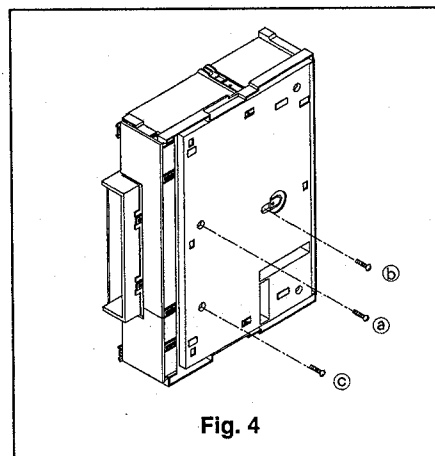

Fig. 4
- ③ Remove the three fastening screws (a, b and c) on the bottom of the set shown in Fig. 4.